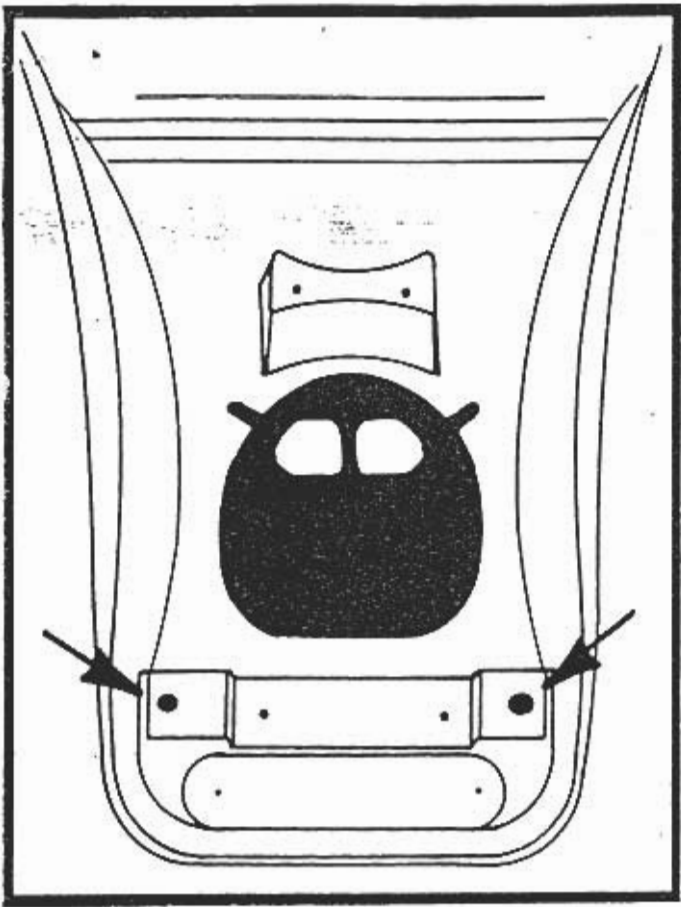

FIGURE 10
- C. Install O.E.M. mini-trip computer bezel from the backside of opening in console. Install computer mounting bracket (item 5 pg 2) and secure using (2) two # 6 x ½" screws (item 1 pg 2). See figure 10.